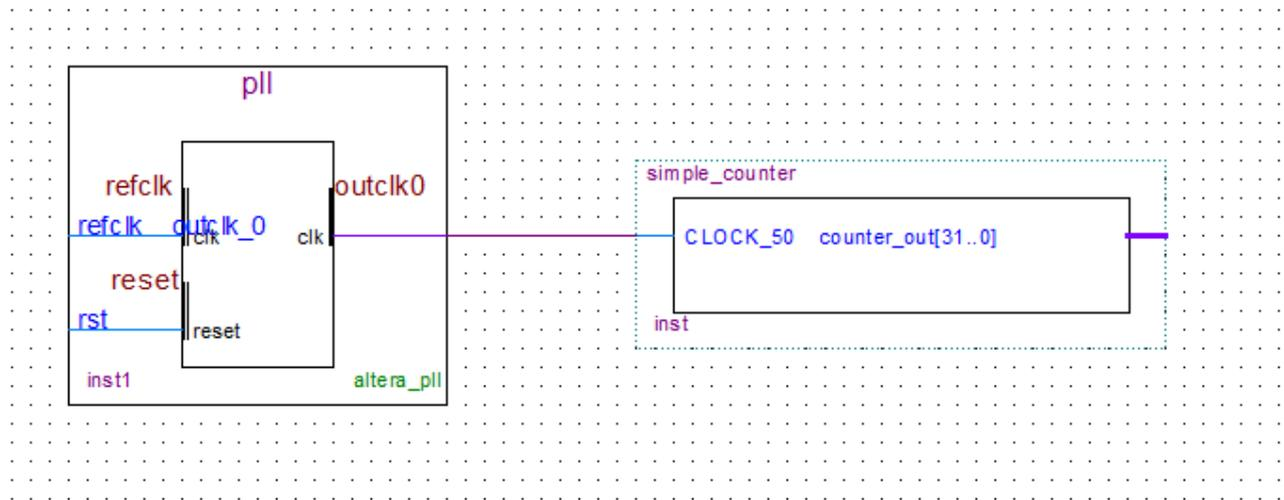

Figure 3-16 Draw a Bus Line connect pll outclk_0 port to simple_counter CLOCK_50 port
12. Click and drag a bus line from the outclk_0 output to the simple_counter clock input. This action ties the pll output to the simple_counter input (see Figure 3-16).